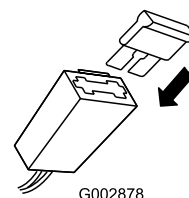

Figure 22
2. Insert the fuse into the fuse holder (Figure 22).